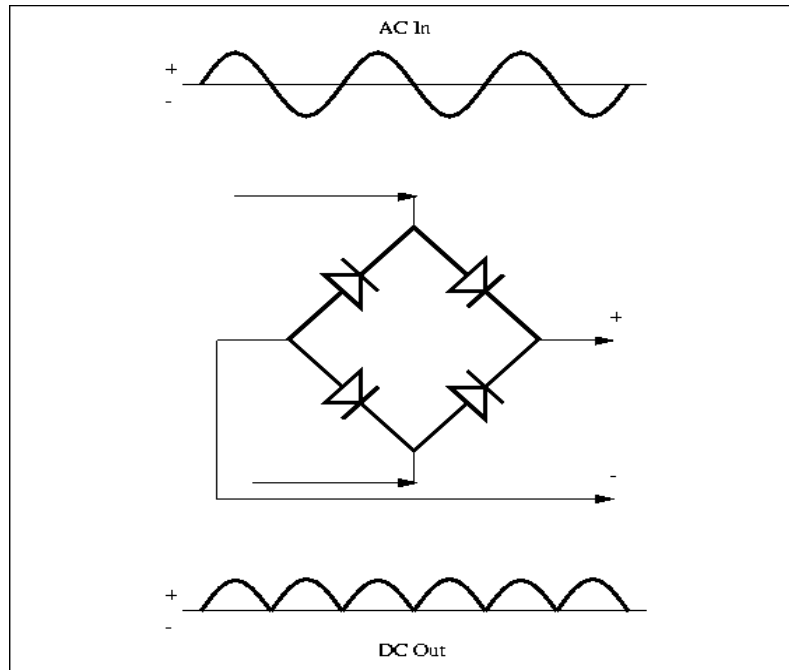

Fig: 1 Full-wave rectifier circuit and corresponding wave forms.
In a full-wave rectifier circuit two diodes are now used, together with a transformer whose secondary winding is split equally into two and has a common centre tapped connection (C). Now each diode conducts in turn when its anode terminal is positive with respect to the centre point C as shown in Fig. 1.